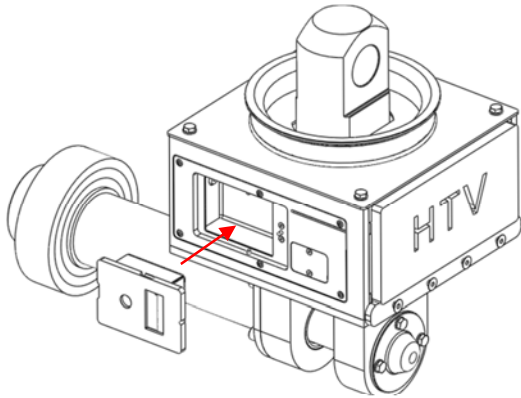

Figure 8 - Insert battery
1. Insert the battery in the shackle (*Figure 8 - Insert battery*).